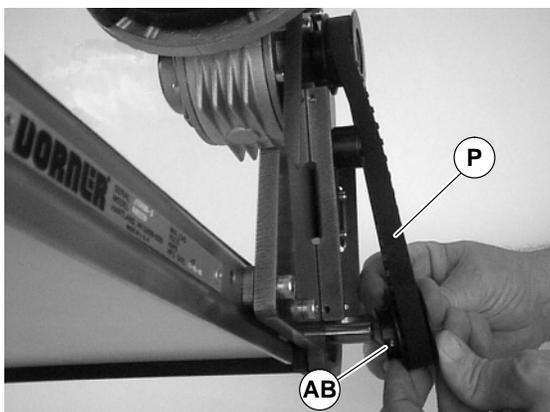

Figure 15
3. Remove timing belt (P of Figure 15).
NOTE: If timing belt does not slide over pulley flange, loosen driven pulley set screws (AB of Figure 15) and remove pulley with belt (P). For re-installation, see steps 8 and 9 beginning on page 6.